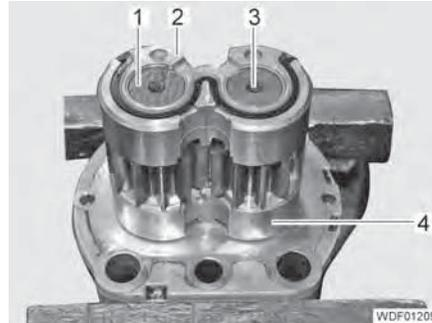

Fig. 157 Internal configuration
- Remove the outer bearing (Fig. 157,2) and place it aside.
- Remove the gears (Fig. 157,1 and 3) and place them aside.
- Remove the inner bearing (Fig. 157,4) and place it aside.
- Place the inner bearing (Fig. 157,4) onto the flange.
- Insert the gear wheel (Fig. 157,1) through the bearing and the flange.
- Insert the gear wheel (Fig. 157,3) into the inner bearing.
- Connect the outer bearing (Fig. 157,2) onto the gear wheels.